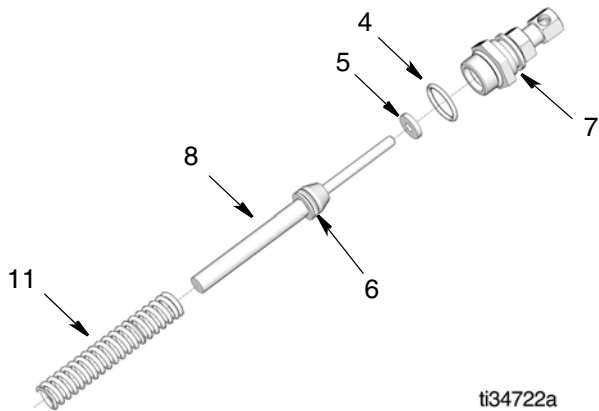

FIG. 8
13. Remove spring (11), indicator pin (8) and o-ring (4) from the displacement piston assembly (7) (FIG. 8).
14. Use a pick to remove the packing (5) from inside the displacement piston assembly (7) (FIG. 8).